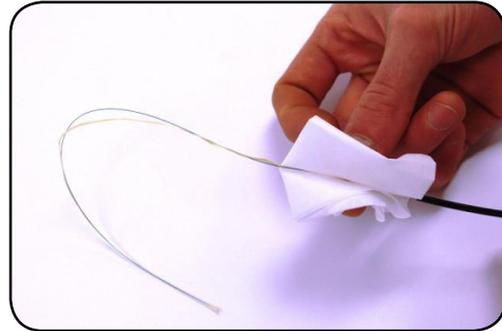

Figure 4
**Step 4:** Using a cleaning wipe and some Isopropyl alcohol, wipe clean the exposed 250um fiber (Figure 4).